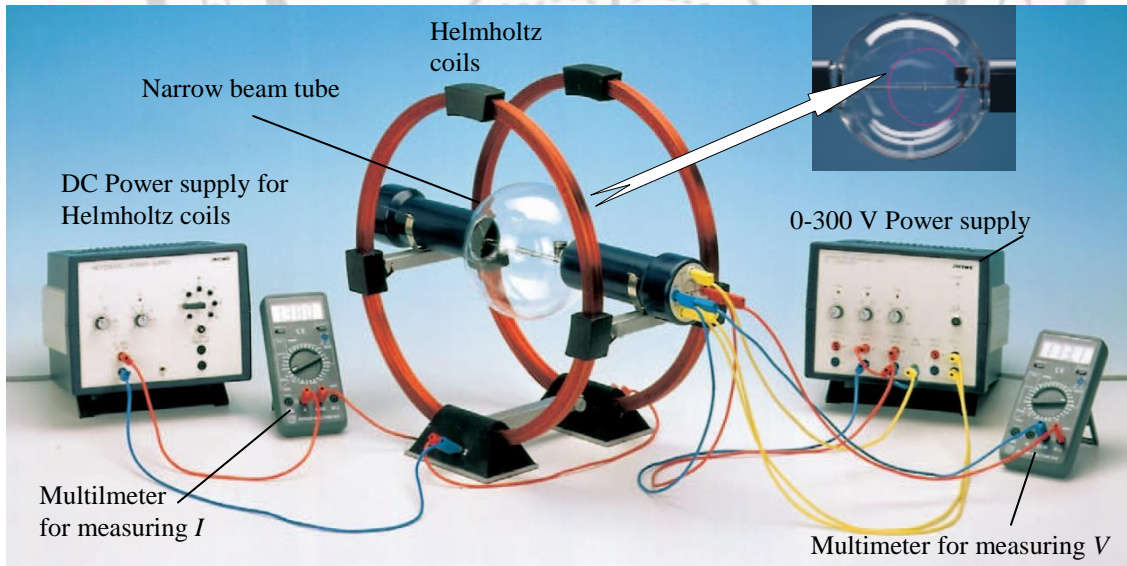
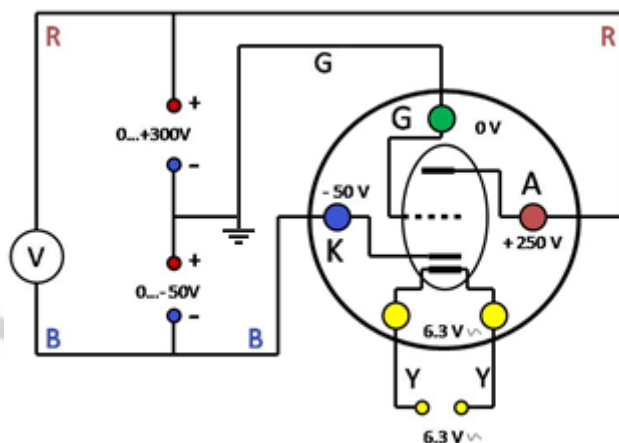

Figure 1 (Source: PHYWE)
Figure 4 (Source: PHYWE)
The experimental set-up is shown in Fig.1. It consists of a pair of Helmholtz coils (1 and 2) and a narrow beam tube. The narrow beam tube is placed on metal rods (secured by clips) in such a way that its connections are towards the right of an operator standing on the side
A profile of the axial magnetic field ($B_1 + B_2$) of such a pair of coils is shown in *Fig. 1*, along with the fields due to individual coils. The uniform magnetic field at an axial point (z) between the coils is given by (same as Eqn. 3.)
Narrow Beam Tube: The narrow beam tube is a glass tube (shown in *Fig. 1*), which after initial evacuation is filled with neon (inert gas) at a pressure of $\sim 10^{-1}$ Pa. It consists of an electron emitting filament or electron gun, a cathode (K), grid (G) and anode (A), shown schematically in *Fig.4*, along with the respective voltages to be applied. The circle and the components shown within it in *Fig. 4*, represent the connections drawing made on the right end panel of the narrow beam tube. The sockets are marked in different colours, corresponding to the respective sockets on the PHYWE (0...300 V) power supply, which is
separately shown in *Fig. 5*. The colours (Red-R, Blue-B, Yellow-Y and Green-G) of the connecting cords to be used are also indicated in *Fig. 4*. It can be seen from *Fig. 4*, that a fixed filament voltage of 6.3 V AC is to be applied to the electron gun. The grid and anode voltages can be varied between -50 V to 0 and 0 to +250 (or +300 V in some set ups), respectively. The accelerating voltage (V) is measured with a multimeter, used in DC voltage mode.
The accelerated electrons collide with residual gas molecules along their trajectory and ionize them. The corresponding recombination of electrons with neon ions results in a visible luminescence, making the electron trajectory observable in a dark room. With an appropriate adjustment of grid voltage, a focused and bright narrow trajectory of electrons can be seen (see *inset, Fig. 1*). The tube is provided with a scale, shaped like a ladder, whose metal rungs are coated with luminous paint. The radius of the electron trajectory is adjusted such that it falls on one of the metal rungs and causes a luminous spot, which enables measurement of the diameter of electron trajectory.
2. Next, connect the power supply to narrow beam tube and the multimeter, using appropriately coloured cords(as shown in *Fig. 4*), some of which are already connected to the sockets on the right end panel of the narrow beam tube. For multimeter connections, use V/ Ω /Hz and COM input jacks and select 1000 V range